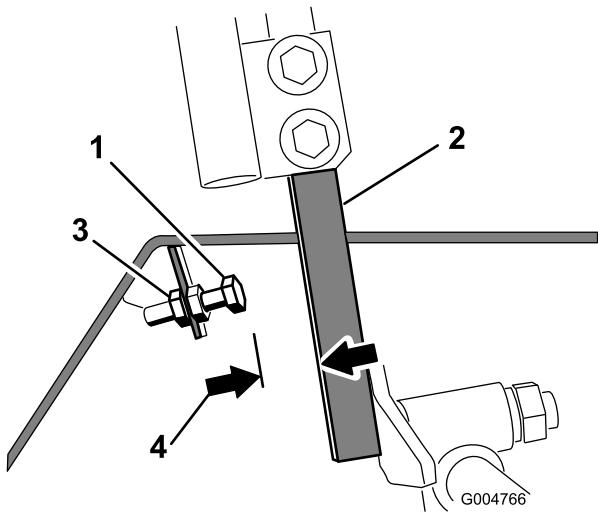

Figure 57
4. Loosen the jam nut on the stop bolt for a control lever (Figure 57).